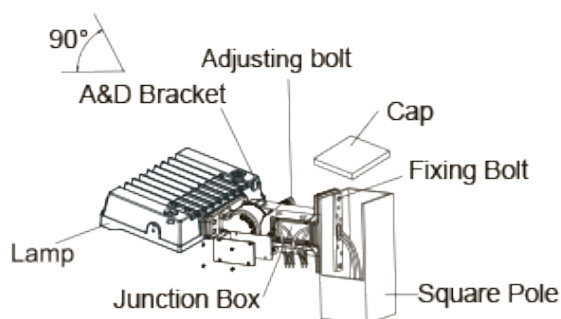

Figure 4.4
Step 2: Fix A&D bracket to square pole with bolt, open the cover of A&D bracket junction box, pull the wire into bracket junction box, connect the wire properly and cover the junction box. (Figure 4.4)